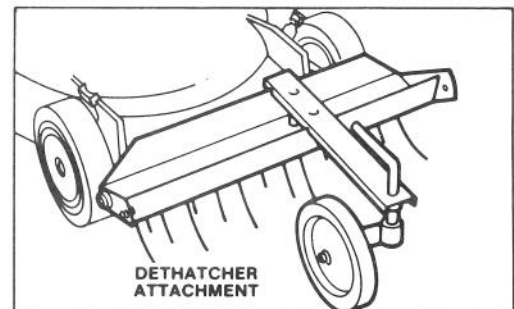

Figure 7
**REMOVE THATCH** — As spring tines on optional Toro Dethatcher scratch and vibrate through the grass, thatch is loosened and conveniently vacuumed into the bag (Fig. 7).